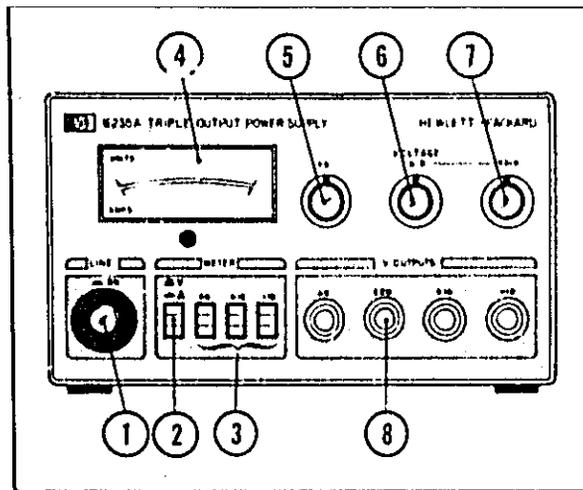

Figure 3-1. Controls and Indicators
3-5 The LINE pushbutton switch (item ①, Figure 3-1) is pushed-in to turn the supply ON and released (out position) to turn the supply OFF. A simulated (non-electrical) ON indicator (within the pushbutton) "lights" when the button is pushed-in whether or not power is applied to the unit.
10-1 The following steps describe the use of the Model J235A front panel controls and indicators illustrated in Figure 3-1 and serve as a brief check that the supply is operational. Follow this checkout procedure or the more detailed performance test of paragraph 5-6 when the instrument is received and before it is connected to any load equipment. Proceed to the more detailed performance test beginning in paragraph 5-6 if any difficulties are encountered.